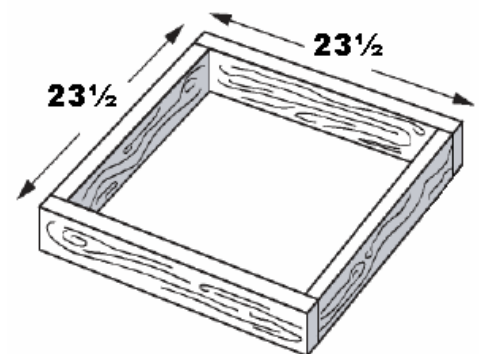

Fig. 1 - Building the Curb Box
Step 5 - Building the Curb Box: Build a 23 ½" x 23 ½" curb box using a weather treated 2x4 stud (see Fig. 1). The curb box should easily fit inside the curb-mount flashing of the attic vent base.